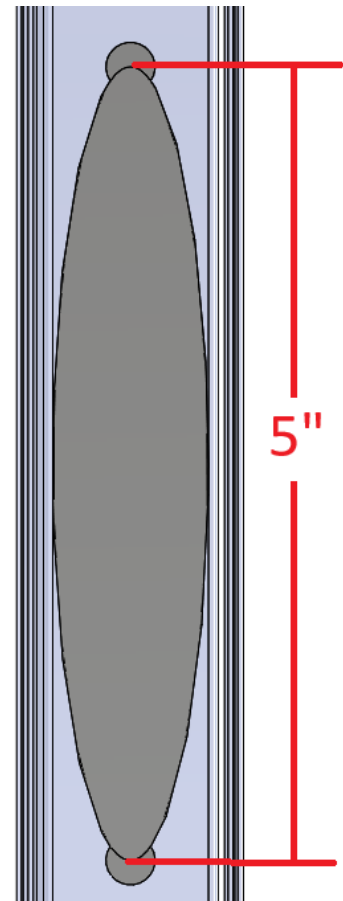

Figure E1:
4. Cut out the 5" section of glazing vinyl as shown (Figure E1).